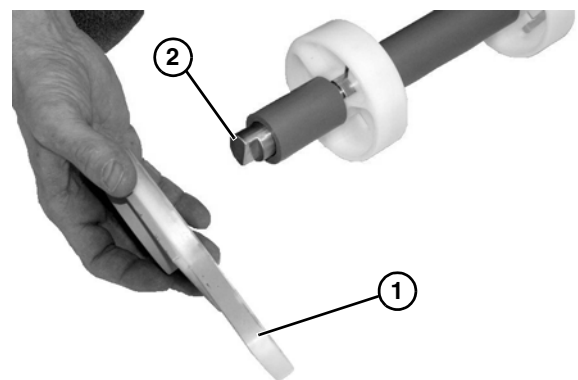

Figure 53
- Slide off idler head plate (**Figure 53, item 1**) from shaft (**Figure 53, item 2**).